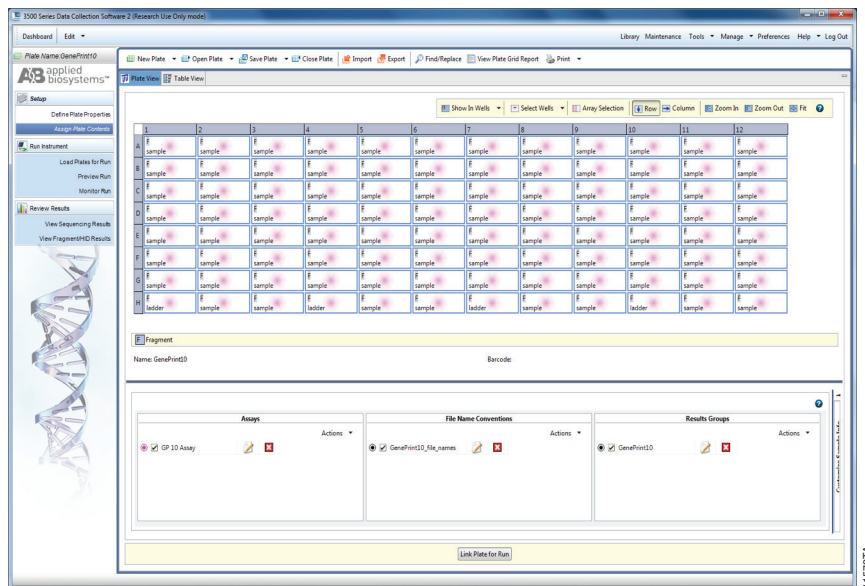

Figure 13. Assigning plate contents.
12. In the lower left portion of the screen (Figure 13), under “Assays”, use the Add from Library option (not shown) to select the Assay created in Step 5. Click on the Add to Plate button, and close the window.